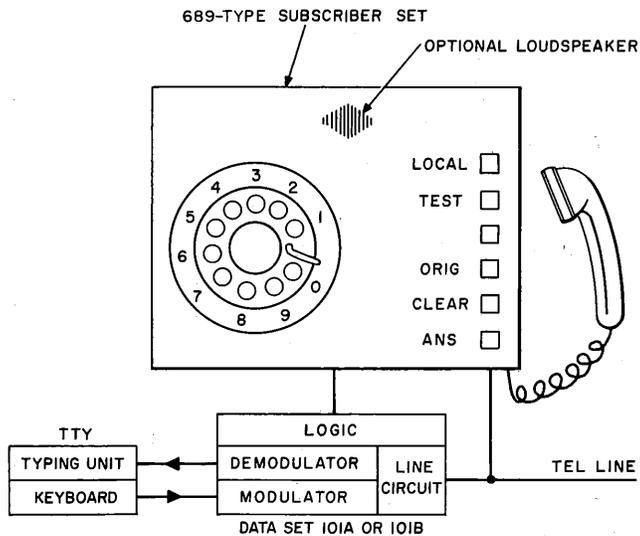

Fig. 1—Block Diagram of TWX Station
2.01 The TWX station consists of three principal units of equipment (Fig. 1).